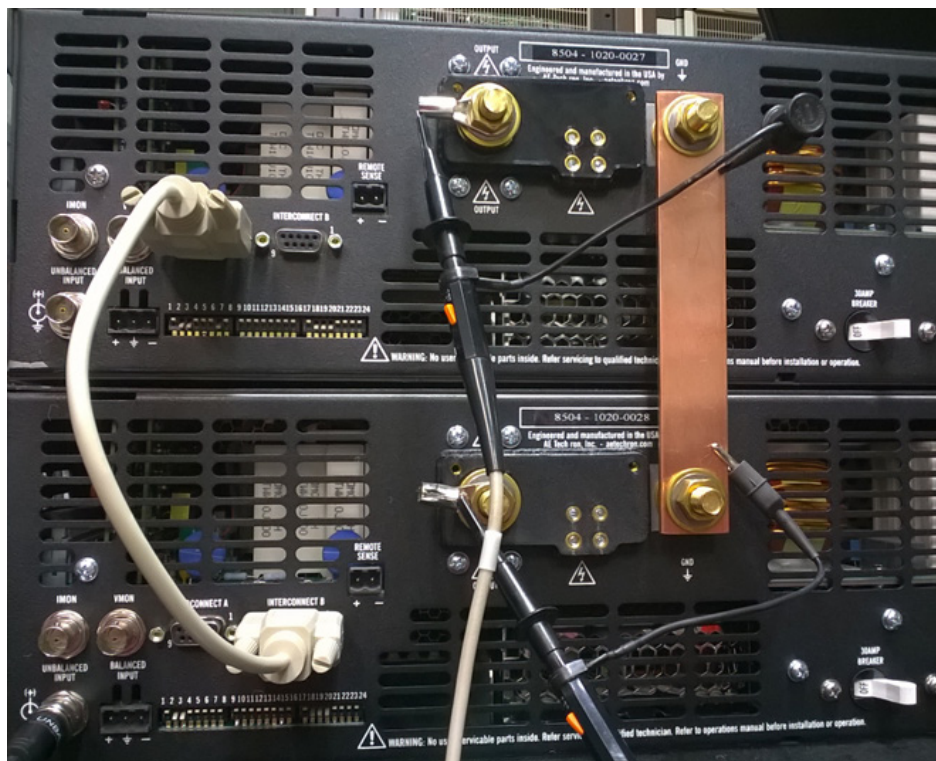

Figure 6.8 – Connecting the two amplifiers for parallel system testing
2. Place the Follower amplifier on top of the Master amplifier, and then connect the bus bar (from the 8302 Multi-amp Kit) between the GND output terminals of the Master and Follower amplifiers. See **Figure 6.8**.